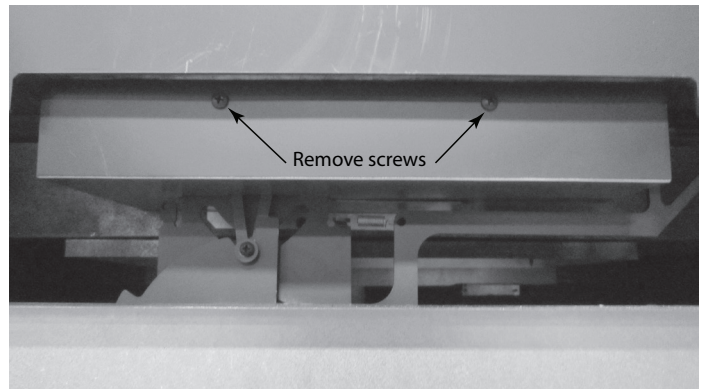

**Figure 4.25 Reinstalling Hairpin Clip and Washer**
11. Install the washer and hairpin clip back on the rod. See Figure 4.25.